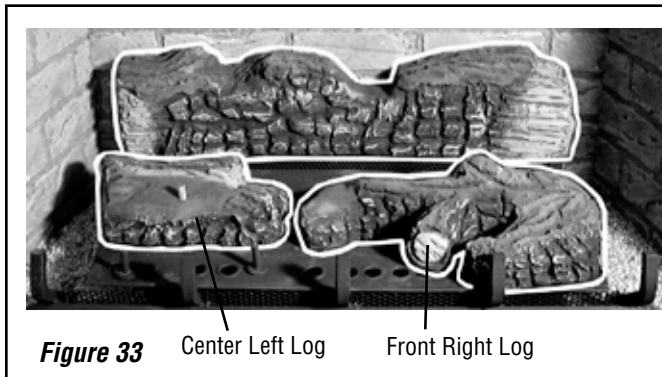

Figure 33
3. Place the Front Right Log and the Center Left Log onto the two corresponding locating pins (each) as shown in **Figure 33**.